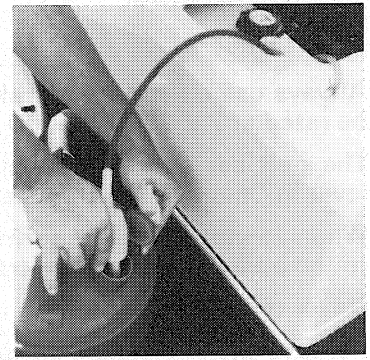

Figure 11
- Using a siphon with a suction device (See Figure 11), drain all of the gas out of the tank into an approved gasoline container.